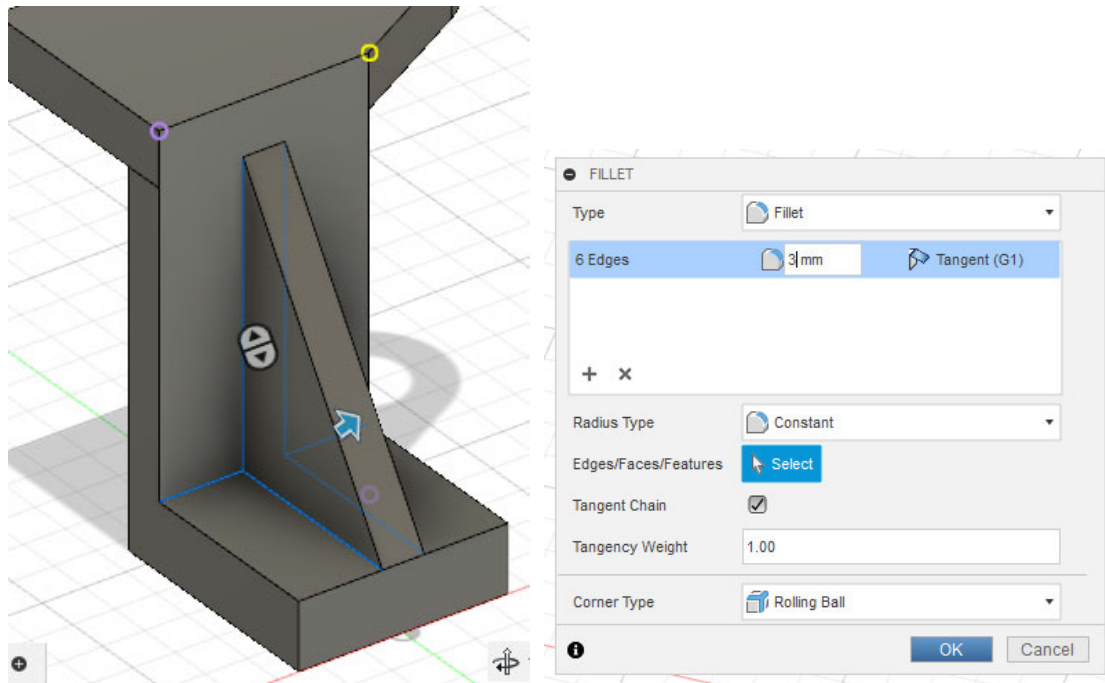

Fig. 12: Setting up the fillet
16. Click "Fillet" and choose 6 edges from the model as shown in Fig. 12.